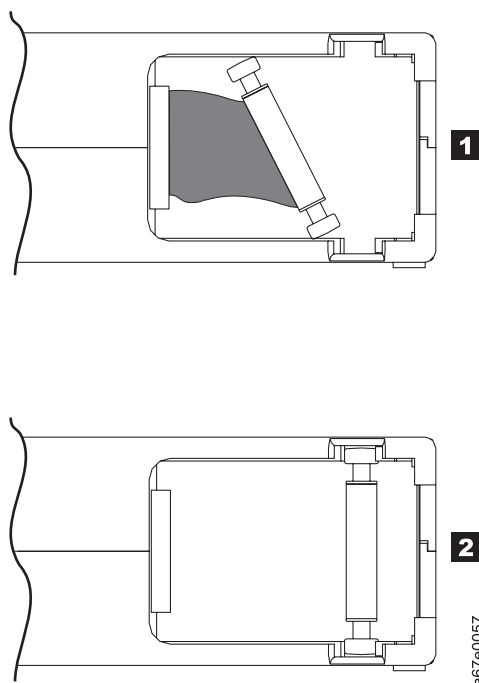

Figure 71. Leader pin in the incorrect and correct positions. The cartridge door is open and the leader pin is visible inside the cartridge.
- Check that the leader pin is properly seated (see **2** in Figure 71 on page 174).
- Do not drop the cartridge. If the cartridge drops, slide the cartridge door back and ensure that the leader pin is properly seated in the pin-retaining spring clips (see **2** in Figure 71 on page 174). If the leader pin has become dislodged, go to “Repositioning or Reattaching a Leader Pin” on page 174.
Example: Improper Placement of Leader Pin (see Figure 71 on page 174)
A leader pin that is improperly seated inside a cartridge can interfere with the operation of the drive. Figure 71 shows a leader pin in the incorrect **1** and correct **2** positions.